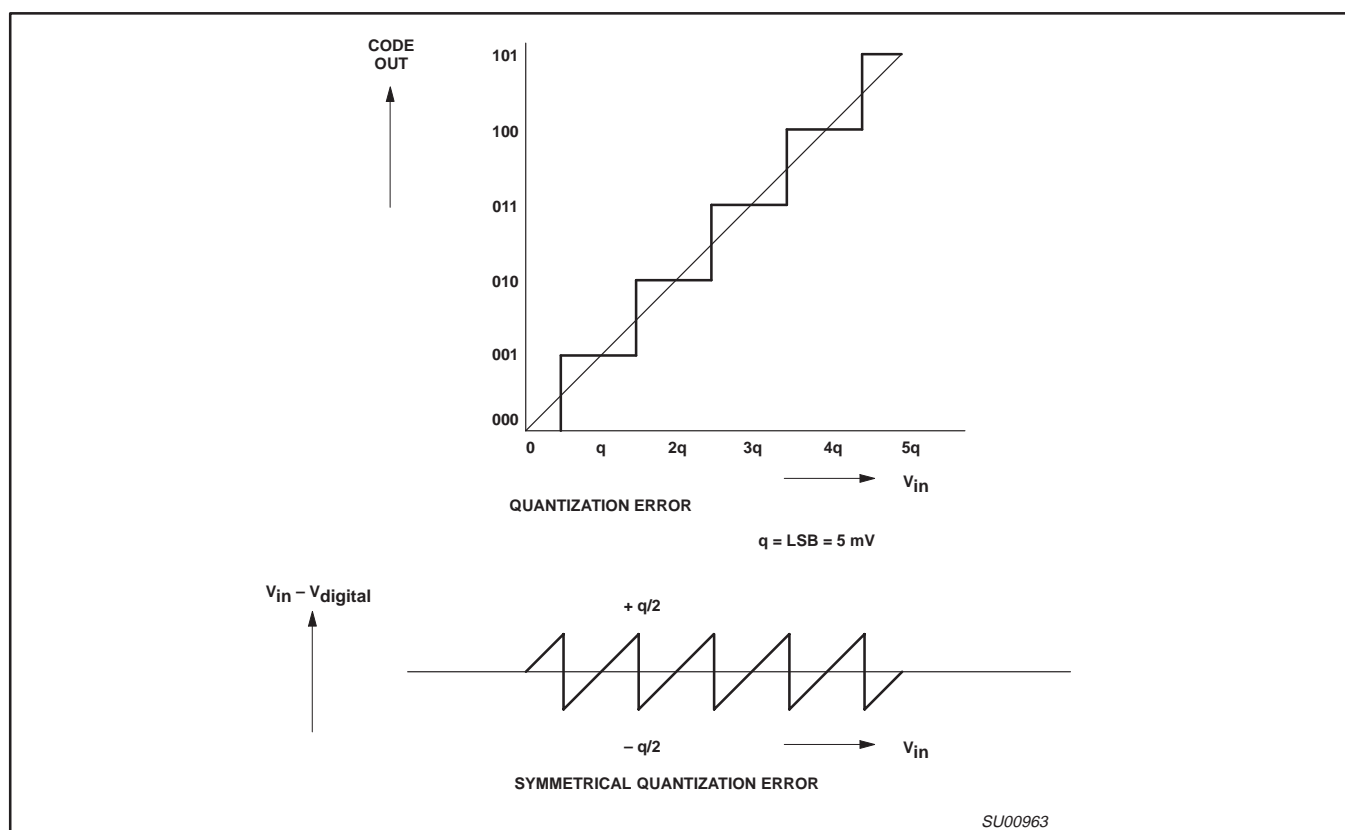

Figure 25. Effective Conversion Characteristic
**10-Bit ADC Resolution and Analog Supply:** Figure 23 shows how the ADC is realized. The ADC has its own supply pins (AVDD and AVSS) and two pins (Vref+ and Vref-) connected to each end of the DAC's resistance-ladder. The ladder has 1023 equally spaced taps, separated by a resistance of "R". The first tap is located 0.5 x R above Vref-, and the last tap is located 1.5 x R below Vref+. This gives a total ladder resistance of 1024 x R. This structure ensures that the DAC is monotonic and results in a symmetrical quantization error as shown in Figure 25.